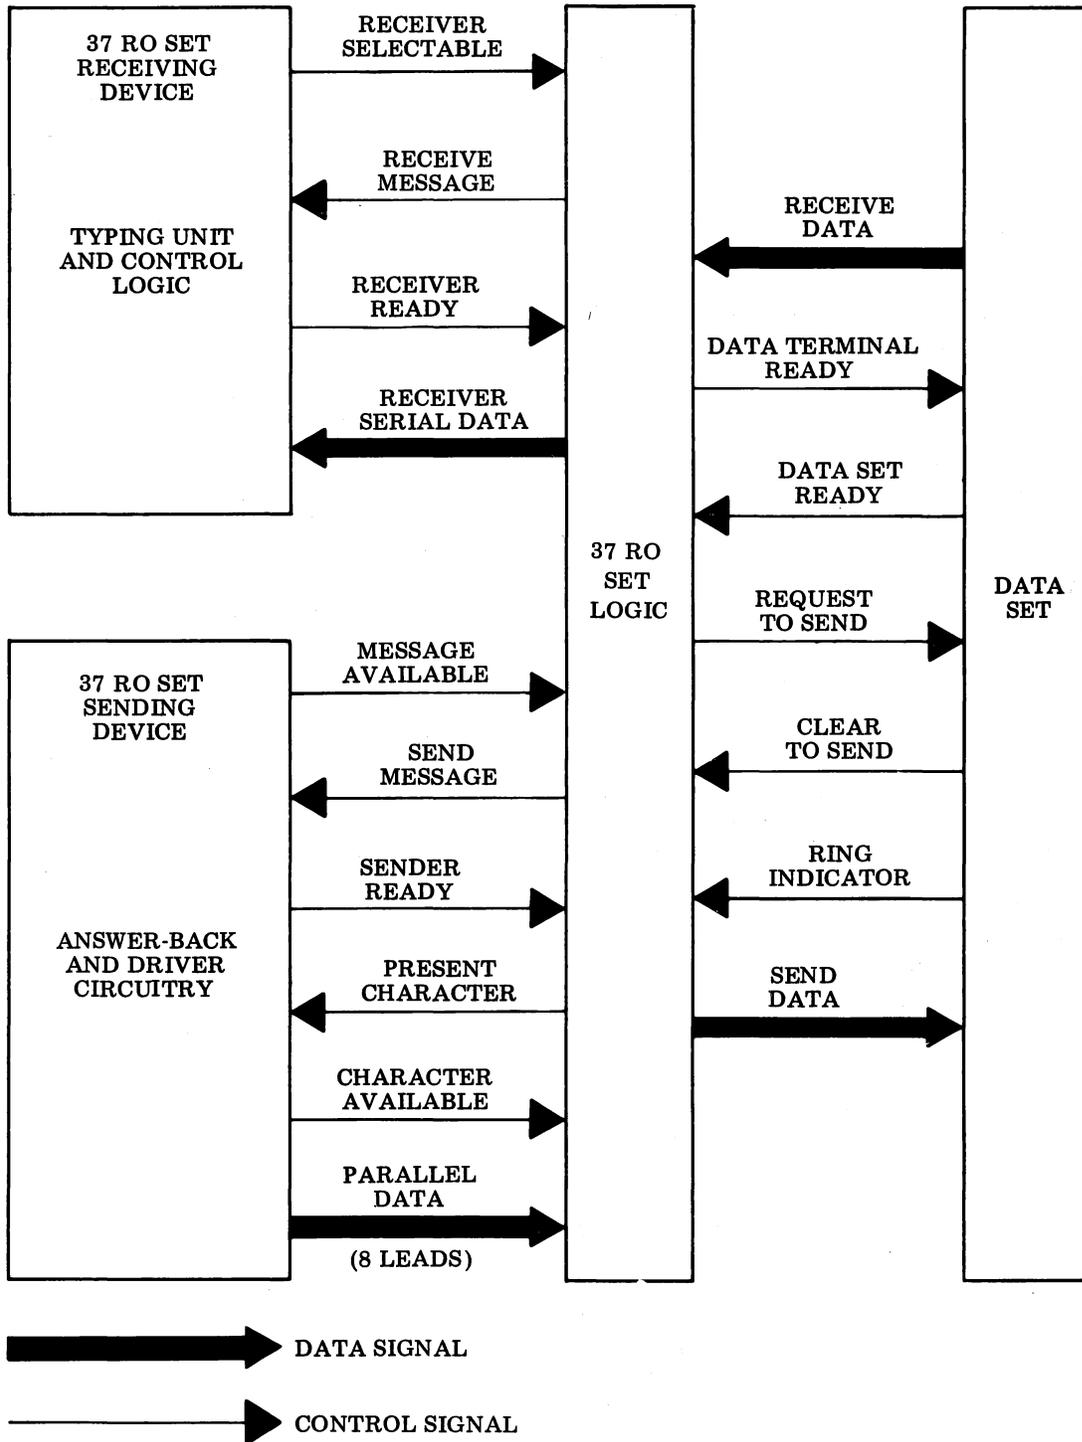

Figure 10 - 37 RO Set Peripheral and Channel Interface
CONTROL (Figure 10)	FUNCTION
4.01 The operation of the set is described in terms of the interface leads controlling both the sending and receiving devices and the communications channel (Figure 10).
4.03 The following four leads (Figure 10) are used by the TTY set logic to prepare the set to receive data.
4.04 The following 13 leads (Figure 10) are used by the TTY set logic to prepare the set to transmit data: